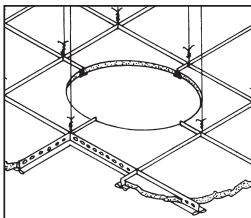

Figure 3
- **Lay-in or Suspended Ceilings:** Cut acoustical tiles and metal framework (*figure 3*). When in place, tiles will rest on the edge of the dome and framework.